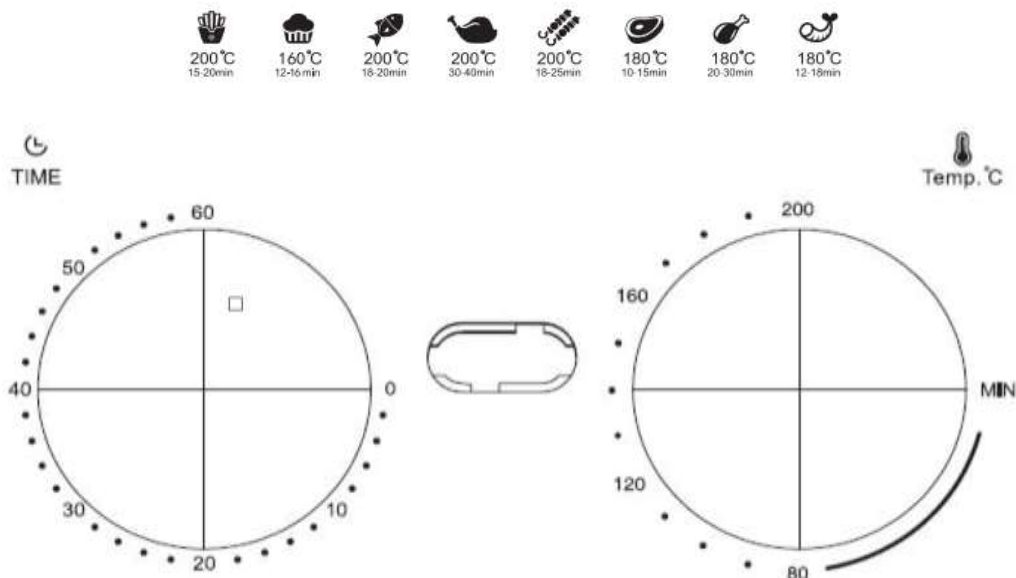

Fig. 4
6. To switch on the appliance, turn the timer knob to the required preparation time (Fig.4)
8. Turn the temperature control knob to the required temperature. See section 'Settings' in this chapter to determine the right temperature (Fig.4). The Working lights will turn on automatically, when up to the set temperature, the working lights will turn off,